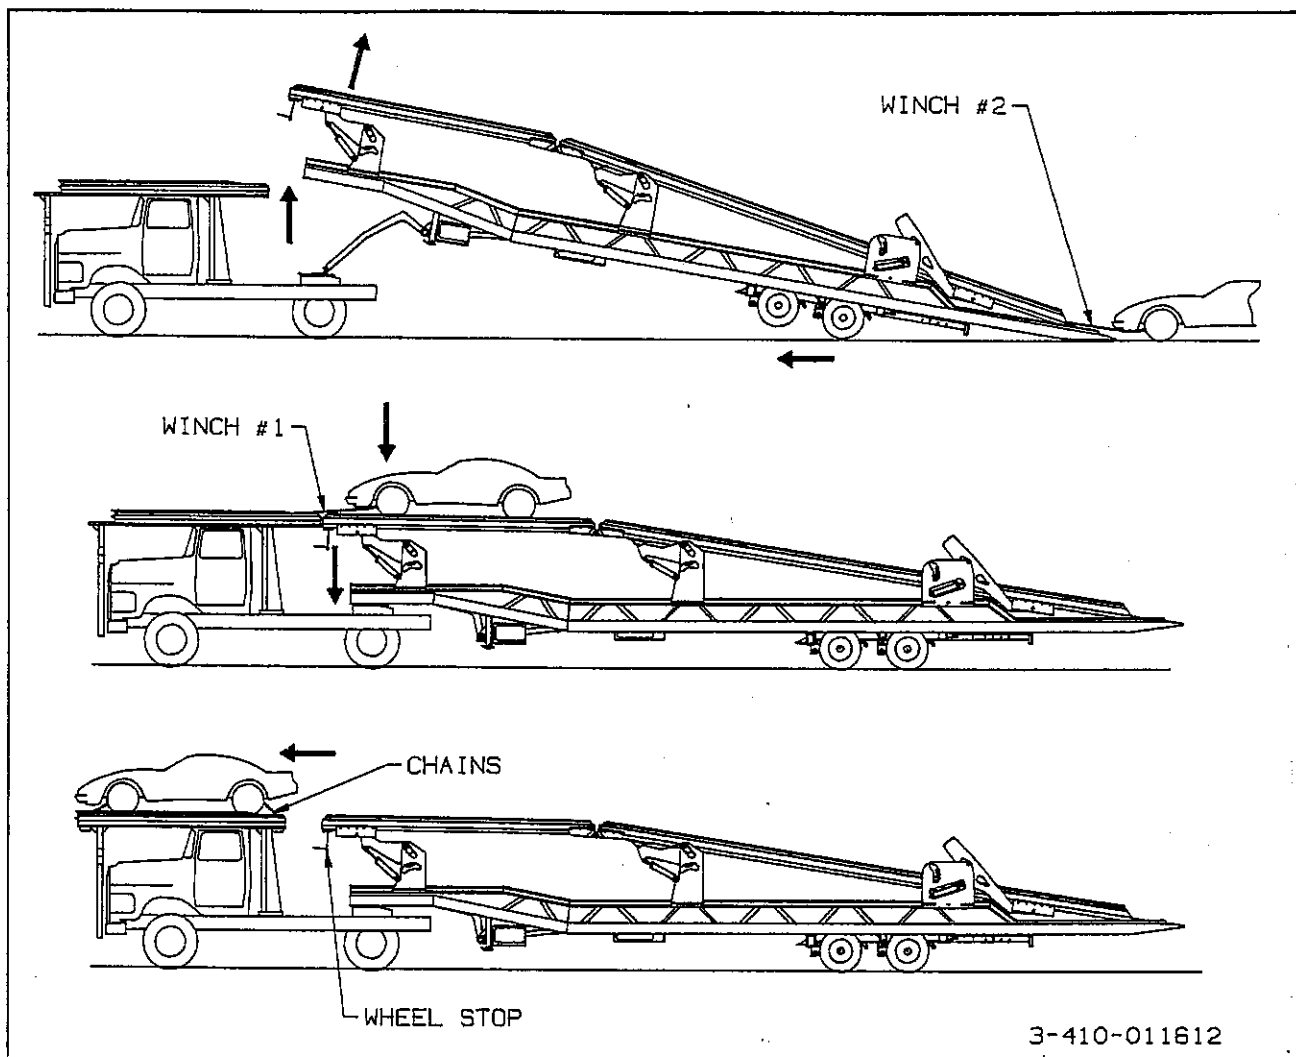

Figure 3-8 Loading the Over-the-Cab Deck
- f. Unlock and raise the front arm as high as it will go. (See Figure 3-8.)
g. Make sure the trailer axles are all the way forward. Tilt the trailer with the **TRAILER TILT** control, until the approach plate of the lower deck touches the ground. (See Figure 3-8.)